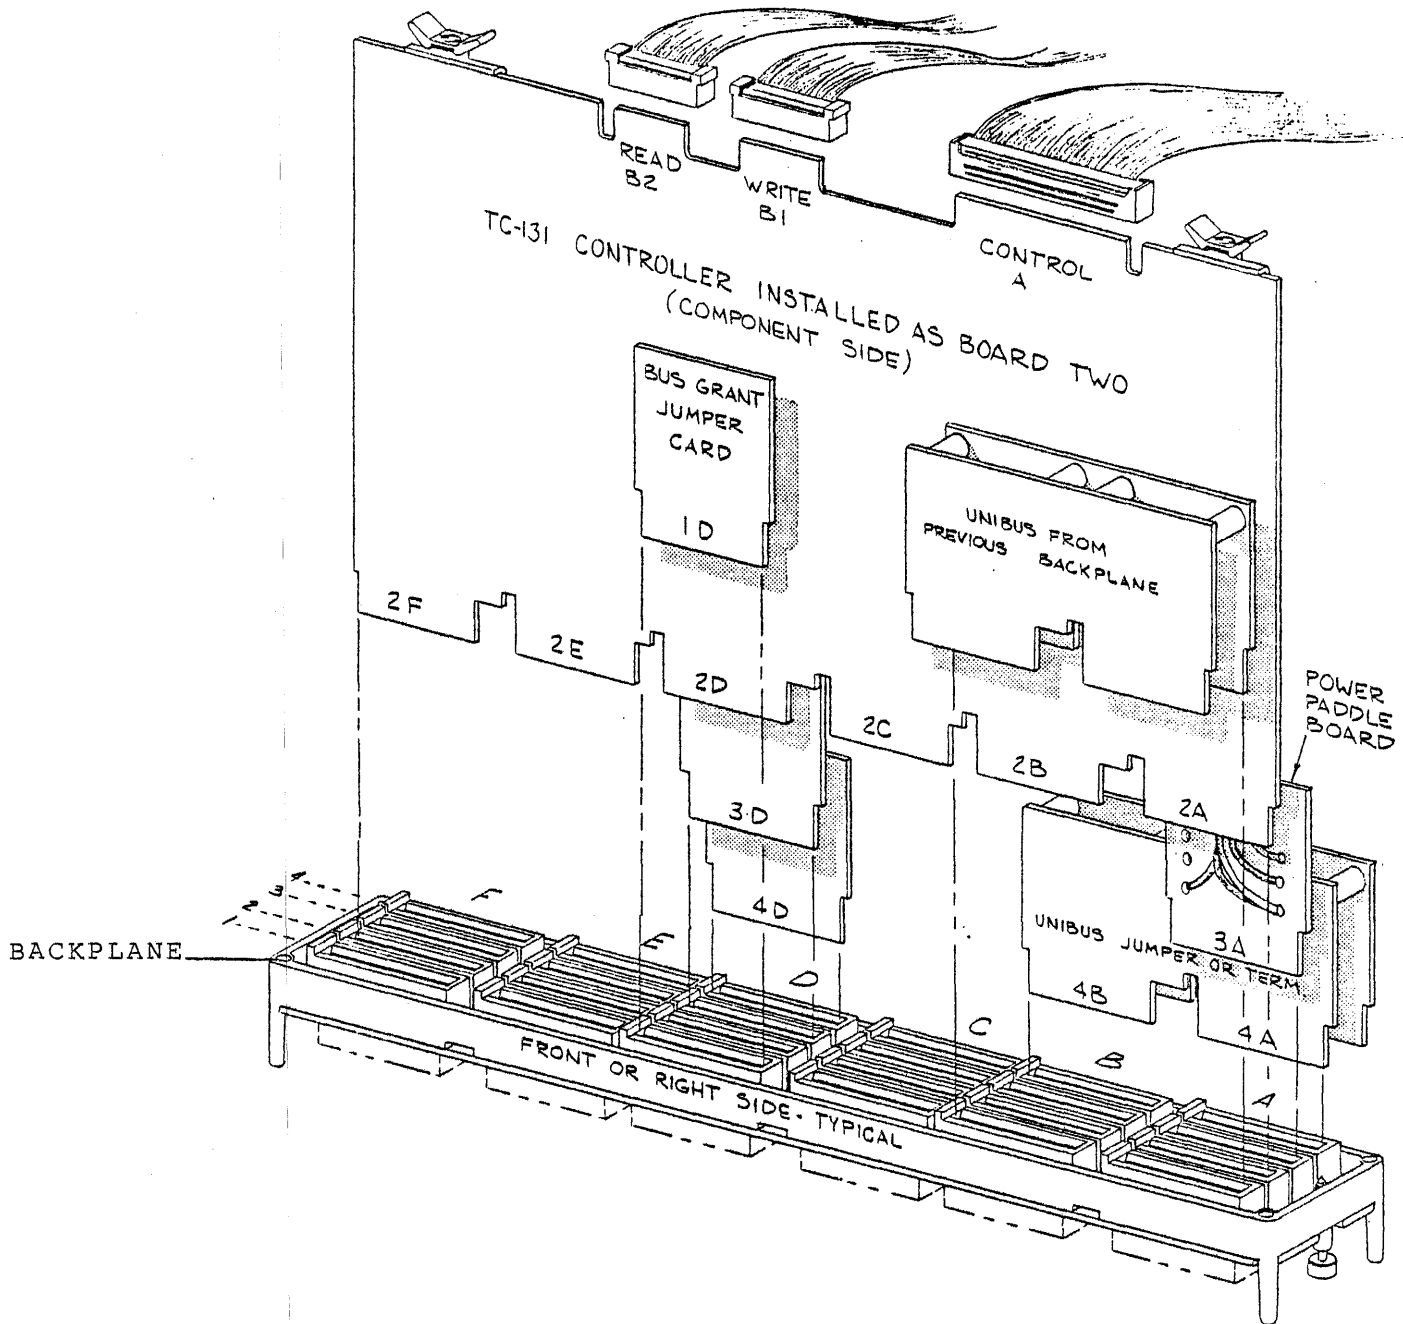

FIGURE 2-4
2.19 CONTROLLER BOARD INSTALLATION. Referring to Figure 2-4, place the controller boards into any convenient location of the system unit. Ensure the boards are oriented correctly (notches on the board connectors must fit the ridges of the system unit), and are seated fully.
2.21 Install the Read, Write, and Control cables (in that order) onto the controller connectors as shown in Figure 2-4. The cables will exit toward the solder side of the boards.